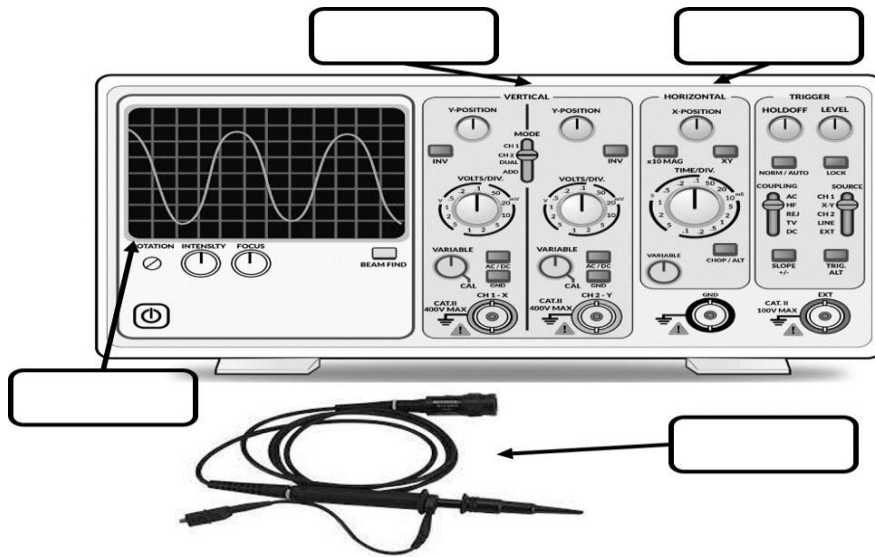

Figure 8: Oscilloscope
c) Label the important features of the oscilloscope shown in Figure 8.